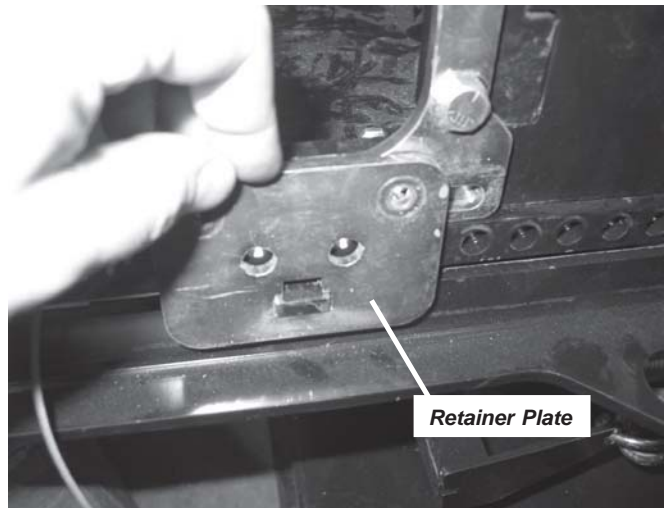

Figure 24 Install retainer plate to plow support tab and engage
26. Install retainer plate slot over tab on plow support and push down to engage tab. Retainer plate holes should now be in alignment with 1/4" bolts. See Figure 24.